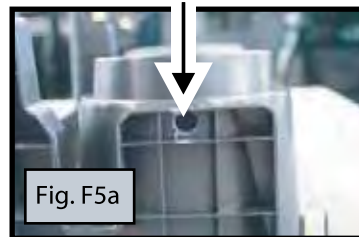

Fig. F5a
-  7. Using previously drilled hole as a guide, drill or punch a 3/8" hole in the cup holder insert to allow light to pass through. A Unibit or step drill is recommended. (Fig. F5ab)